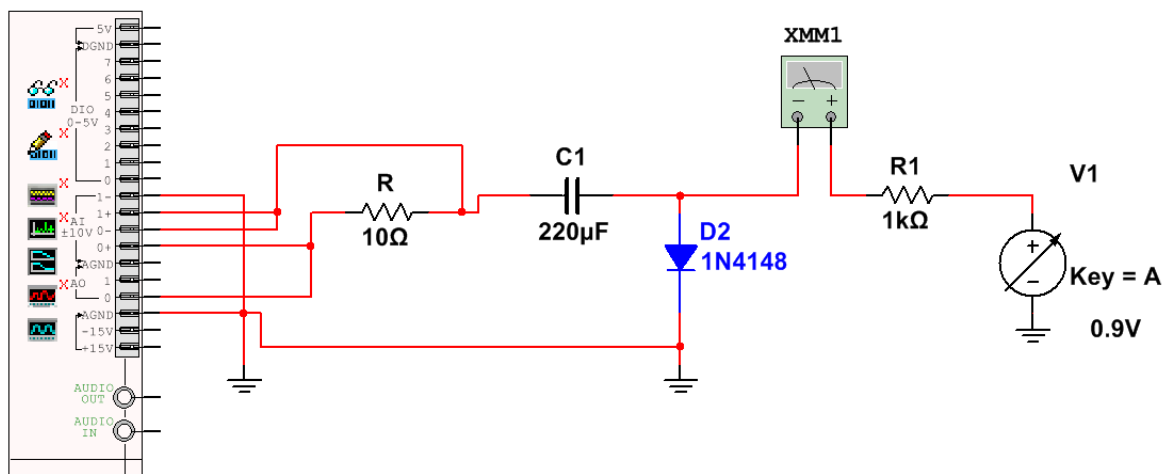

Figure 4 Modified schematic for finding the dynamic resistance at low  $I_{DQ}$  values.
- Find the dynamic resistance also at low IDQ for that use simulations and the setup that is shown in Figure 4. Adjust the source voltage of the voltage source such values that the diode is just ON. Consider also the case when the diode is OFF.